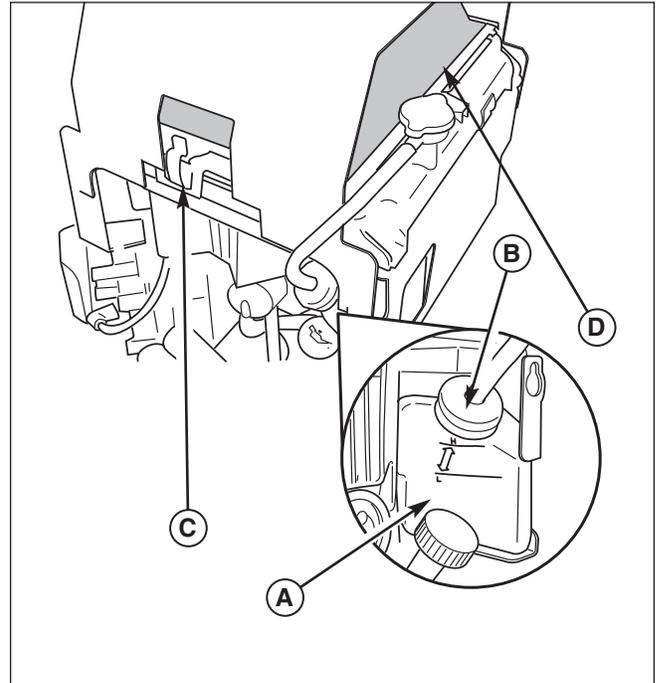

Figure 18. Radiator, Screen & Overflow Bottle
1. Check the coolant level only at the overflow reservoir (A, Figure 18). The coolant level should be between the “H” and “L” marks.
2. If the coolant level is insufficient, remove the cap (B) from the reservoir and add coolant to the “H” mark.